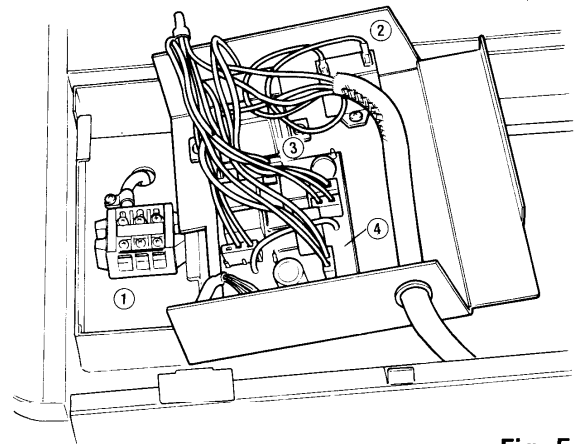

Fig. 5
- 6 ) The electrical components in the electrical component box all can be checked in this condition. Fig. 5